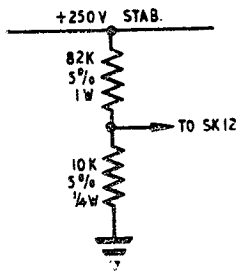

Fig. 14. Test resistors for SK12
- (1) (a) Make sure SK12 is connected to a working blanking unit Type 26.
- OR (b) Improvise the test circuit shown in fig. 14 for connection to SK12 to simulate the normal blanking unit load.